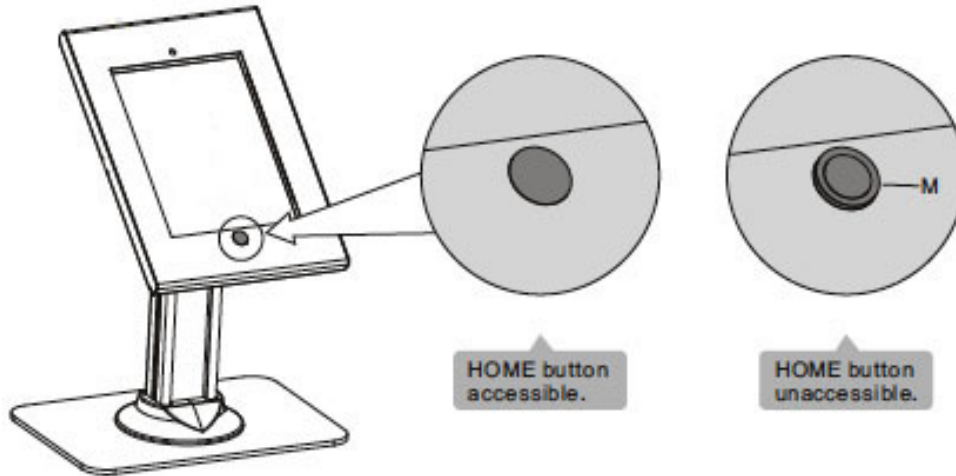

Figure 11
3. Insert the the **Plastic Button (M)** into the opening, see **Figure 11**.